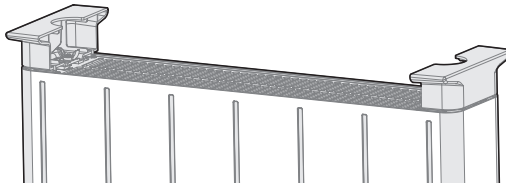

Figure 2
- 3 Take the butterfly nuts from the accessory pack and tighten it onto the screw to secure the feet. (Figure 2)